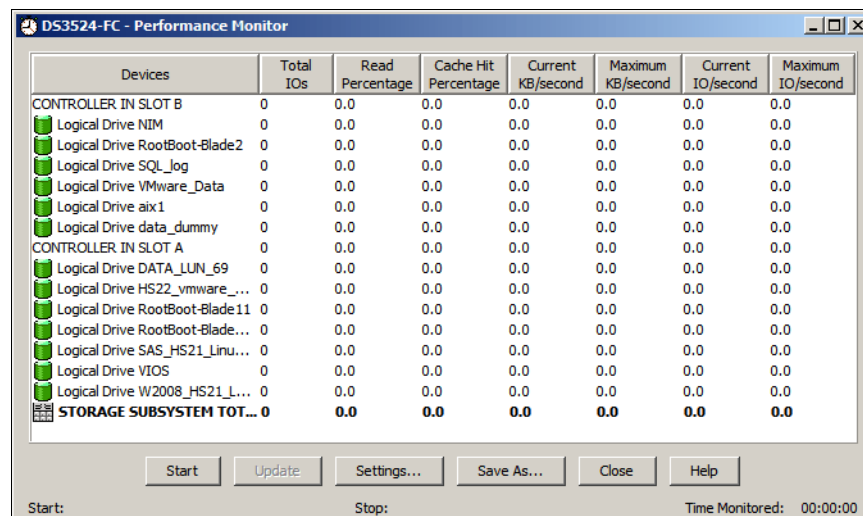

Figure 14-98 Performance Monitor
1. Open the **Performance Monitor** by clicking **Storage Subsystem** → **Performance Monitor** in the DS Storage Manager (Subsystem Management) window or by clicking the Stopwatch icon  in the Subsystem Management icon bar. The Performance Monitor window is shown in Figure 14-98.